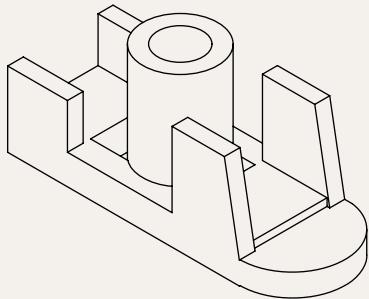
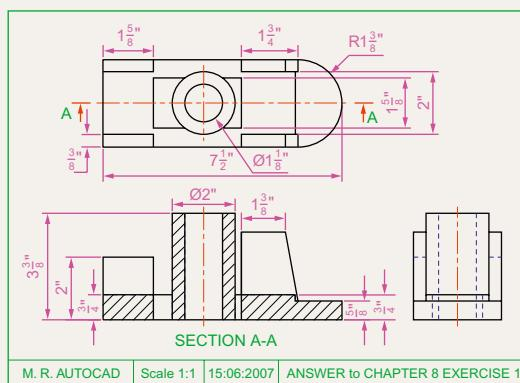

Fig. 8.19 Exercise 1 – a pictorial view
Fig. 8.20 Exercise 1
- Fig. 8.19 is a pictorial drawing of the component shown in the orthographic projection Fig. 8.20. Construct the three views but with the front view as a sectional view based on the section plane A-A.